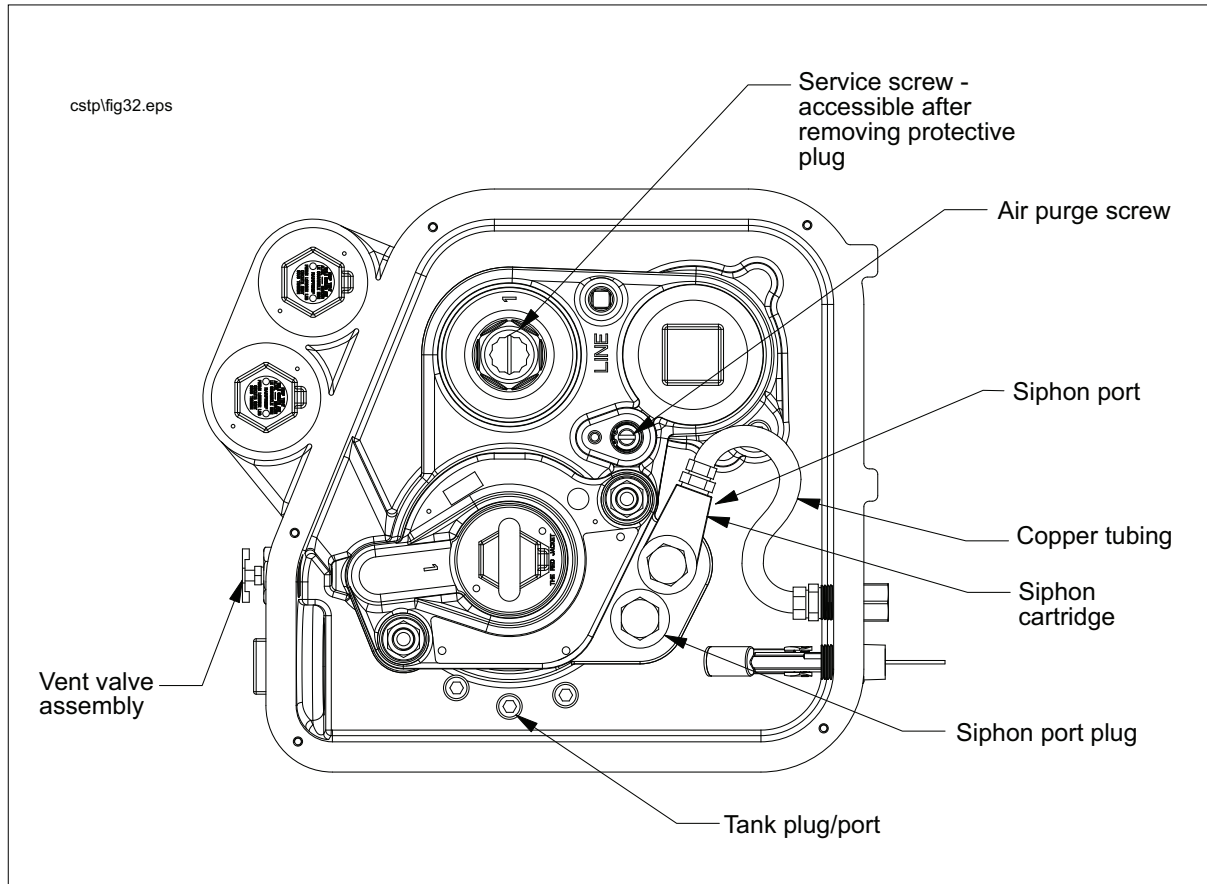

Figure 36. Siphon Ports
7. Remove and save the protective plug over the service screw and turn the service screw clockwise (see Figure 36). As the screw approaches its bottom position, you will hear the system depressurizing. Bottom the screw, then backoff 4 turns to lift the check valve allowing the fuel to drain out of the manifold's hydraulic cavities.
7. Remove and save the protective plug over the service screw and turn the service screw clockwise (see Figure 36). As the screw approaches its bottom position, you will hear the system depressurizing. Bottom the screw, then backoff 4 turns to lift the check valve allowing the fuel to drain out of the manifold's hydraulic cavities. Continue to turn the screw counter clockwise until you hear the check valve drop down into position.